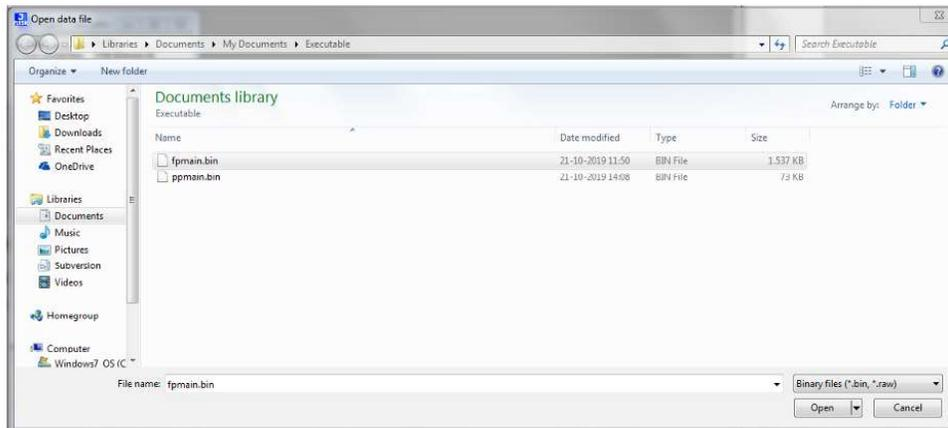

Figure 8: Select data file [LoadFile\_select]
9. The Explorer window "Open data file" opens. Select File type ".bin", then select file "fpmain.bin" and click "open" (Figure 8, STMA-69047);